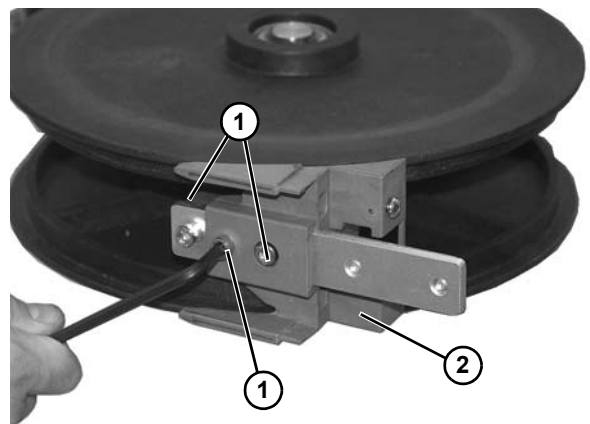

Figure 145
- Remove screw (Figure 145, item 1) on both sides of guard cover (Figure 145, item 2). Remove guard cover.
- Remove screws (Figure 145, item 1) from wheel guide (Figure 145, item 2).